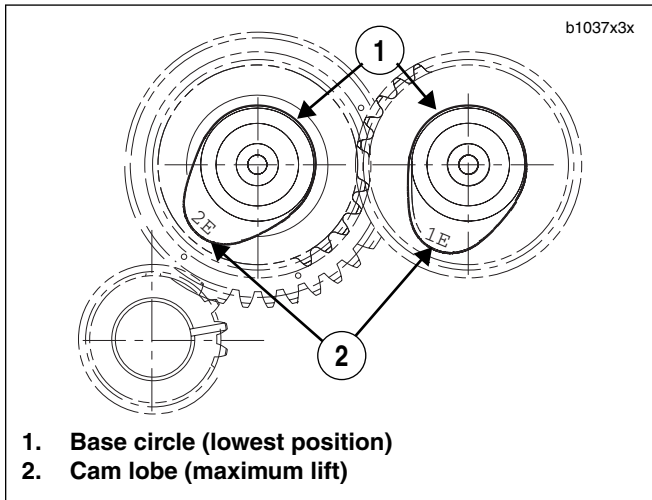

Figure 3-126. Base Circle
1. See Figure 3-126. Rotate engine so that both lifters from the cylinder will be installed on the base circle of the cam.